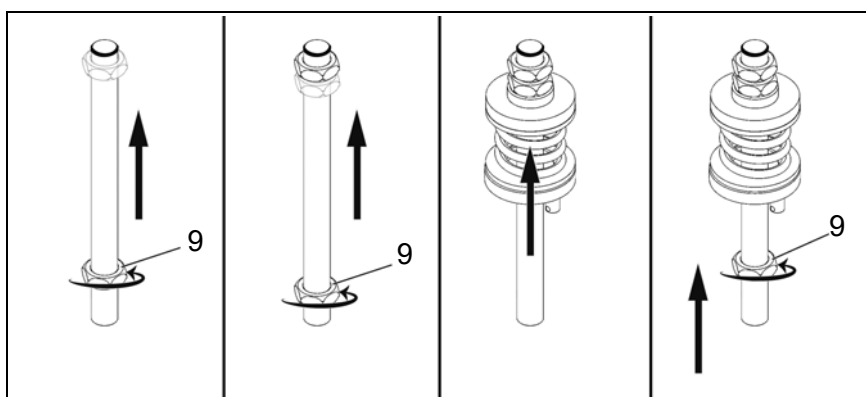

Fig. 6
8. Screw the hex nut (9) (Fig. 6 left) counter-clockwise onto the threaded rod.
9. Screw the second hex nut (9) (Fig. 6 centre left) counter-clockwise up to the first hex nut on the threaded rod.
10. Slide the tension spring with its washers and bolts (Fig. 6 centre right) up to the hex nuts on the threaded rod.
11. Screw the counter hex nut (9) (Fig. 6 right) counter-clockwise, as in the picture, onto the threaded rod.